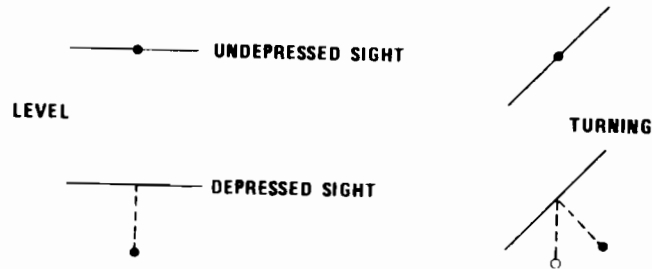

Figure 6-7
(3) Final. The base to final turn is the pivot point of the entire pass. Executed properly, it will help you obtain proper tracking on final and pipper placement at release. Visualize the initial pipper placement. On a no-wind day it will be 6 o'clock to the target. The end result of the final turn is to align the aircraft directly parallel to or over the run-in line with the nose at 12 o'clock to the target. As you roll in, call the range officer for clearance. The roll-in is accomplished with reference to the nose of the aircraft, not the pipper. Due to depression, the sight will swing excessively during turns. This is known as pendulum effect (Figure 6-7). Use the sight only when wings level on final.